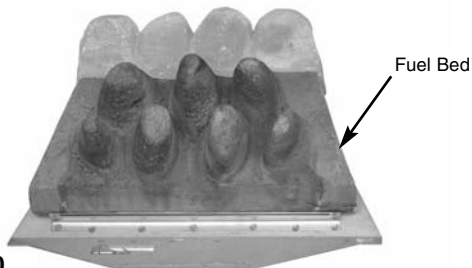

Fig. 50
2. Place the main fuel bed on to the middle section of the metal burner tray. It is important that the front edge of the fuel bed is located behind the burner strip (Fig. 50).